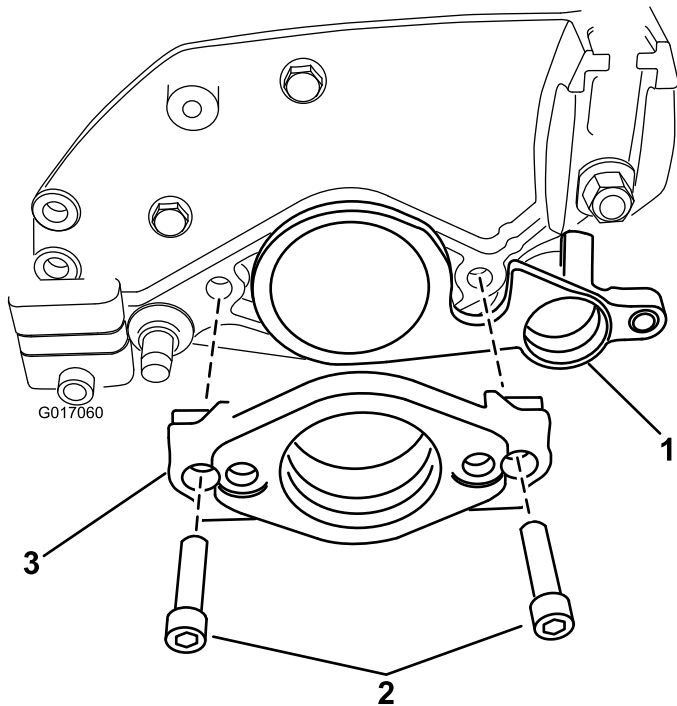

Figure 7
17. Insert the other end of the groomer shaft into the right-hand side plate bearing support (Figure 7).
18. Insert the motor mount onto the side plate. Secure the motor mount and side plate to the right end of the cutting unit with 2 socket head bolts and nuts previously removed (Figure 7).